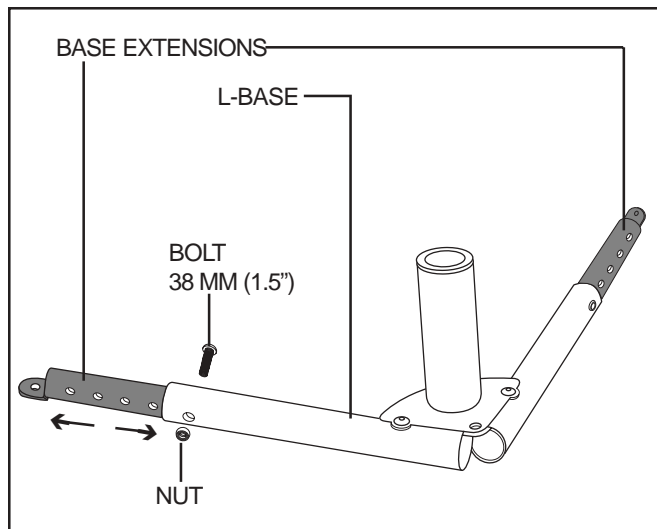

Figure 1. L-Base Extensions
1. Assemble the L-Base. See **figure 1**. For optimal use, insert the base extensions into the L-base at their farthest extension point and install the hardware (nuts and bolts). The base extensions can be adjusted to accommodate obstructions.